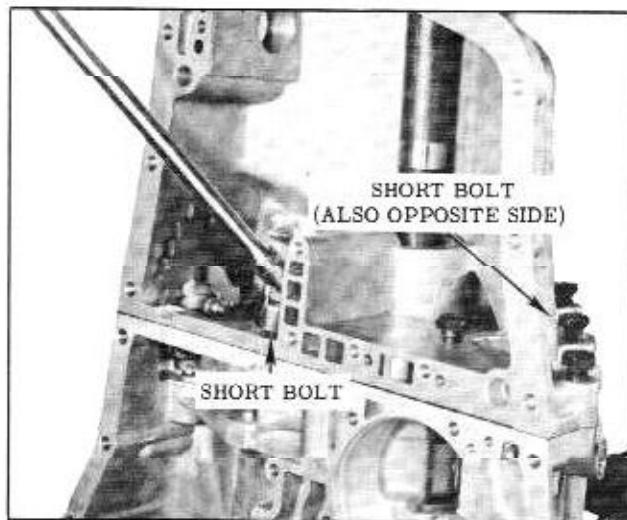

Figure 3-33 Rear Bearing Retainer Bolts
3. Rotate the transmission so that the output shaft is up, then remove the rear bearing retainer to case attaching bolts (6 on out side and 2 on inside of rear bearing retainer.) (Fig. 3-33)